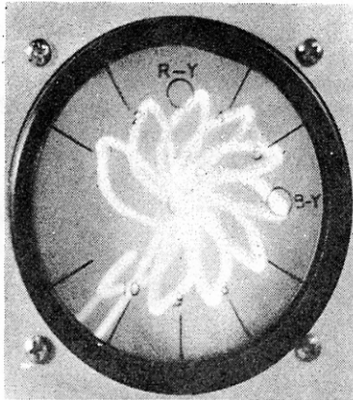

Fig. 10
Step 2. Using an unused channel and with the Model V-7 selector switch in the color position, fine tune receiver for best pattern display. This will occur at the point where the fine tuning just tunes the pattern in. As the fine tuning is rotated in one direction the pattern will break up and go out of sync and as the fine tuning is rotated in the opposite direction the pattern will come into sync. It is this point that is the optimum setting for the fine tuning control. Improper fine tuning setting will produce a vector display as shown in Fig. 10. Adjust the chroma control and hue range control for a proper color pattern. The best pattern will occur when the contrast control on the receiver is advanced since each color bar rides on a brightness pedestal.